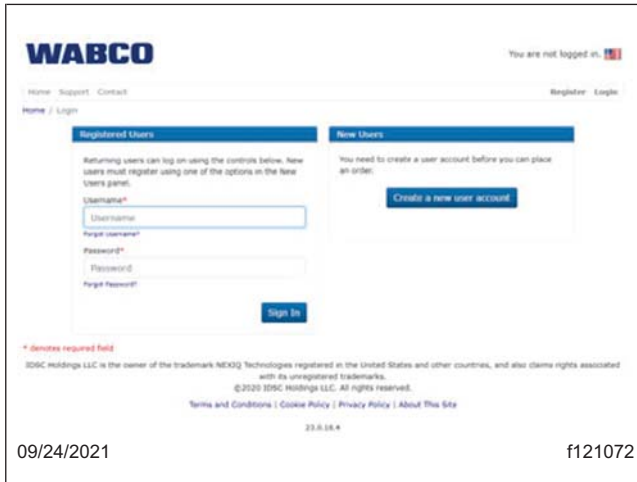

Fig. 2, Wabco Sign-In Page
4. Sign-in to <https://wabco.snapon.com>, then select 'Aftermarket Programming Configuration Files' at the top of the screen. See Fig. 2 and Fig. 3.